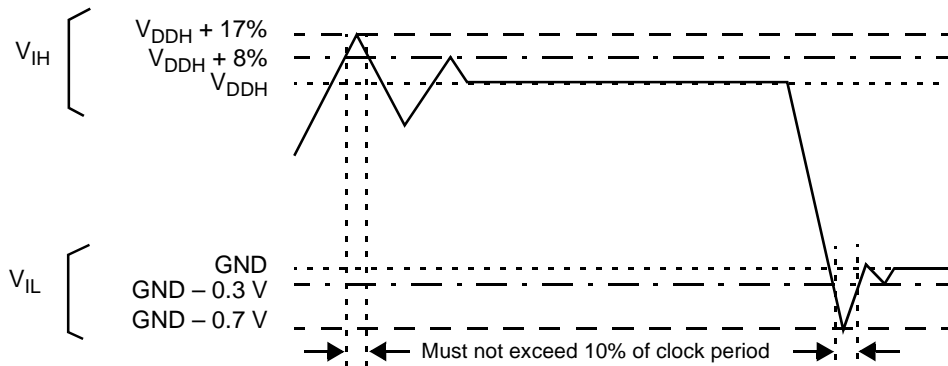

Figure 5. Overshoot/Undershoot Voltage for  $V_{IH}$  and  $V_{IL}$
1. See **Figure 5** for undershoot and overshoot voltages.